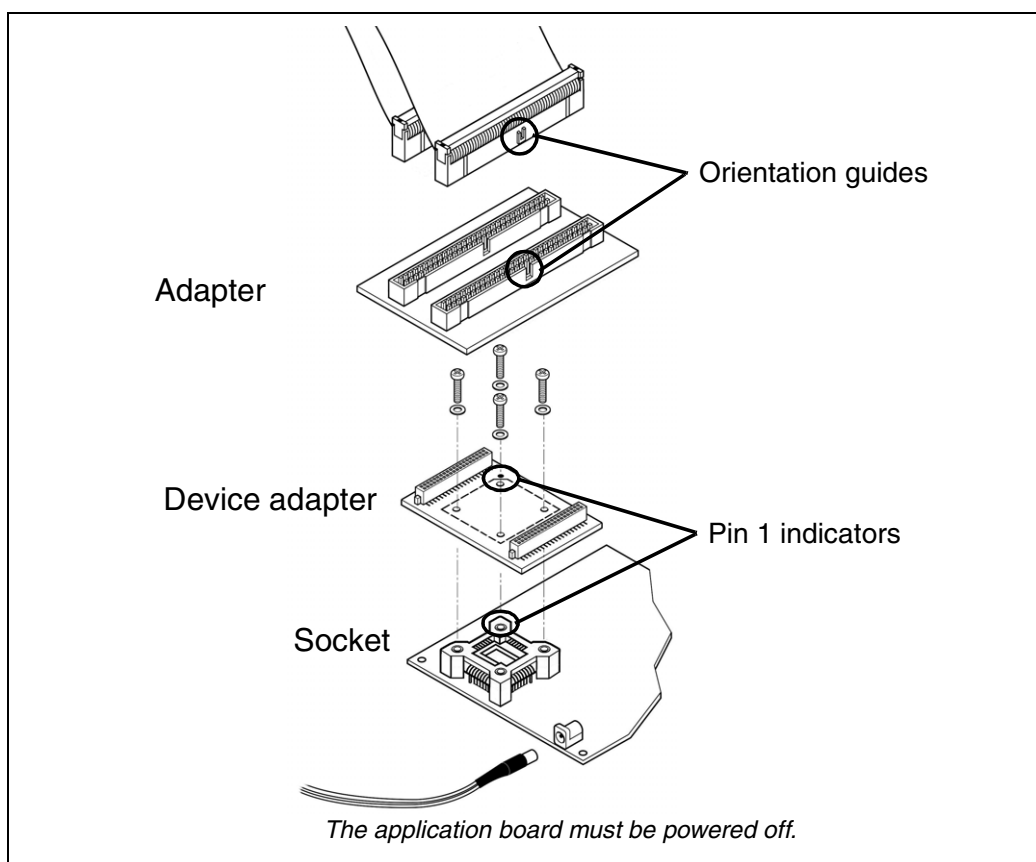

Figure 8: Connection for TQFP64 (10x10) package
- 2 Align the pin 1 of the device adapter (Ref.: DB583) with pin 1 of the socket, then secure the device adapter to the socket with the provided screws as shown in Figure 8.